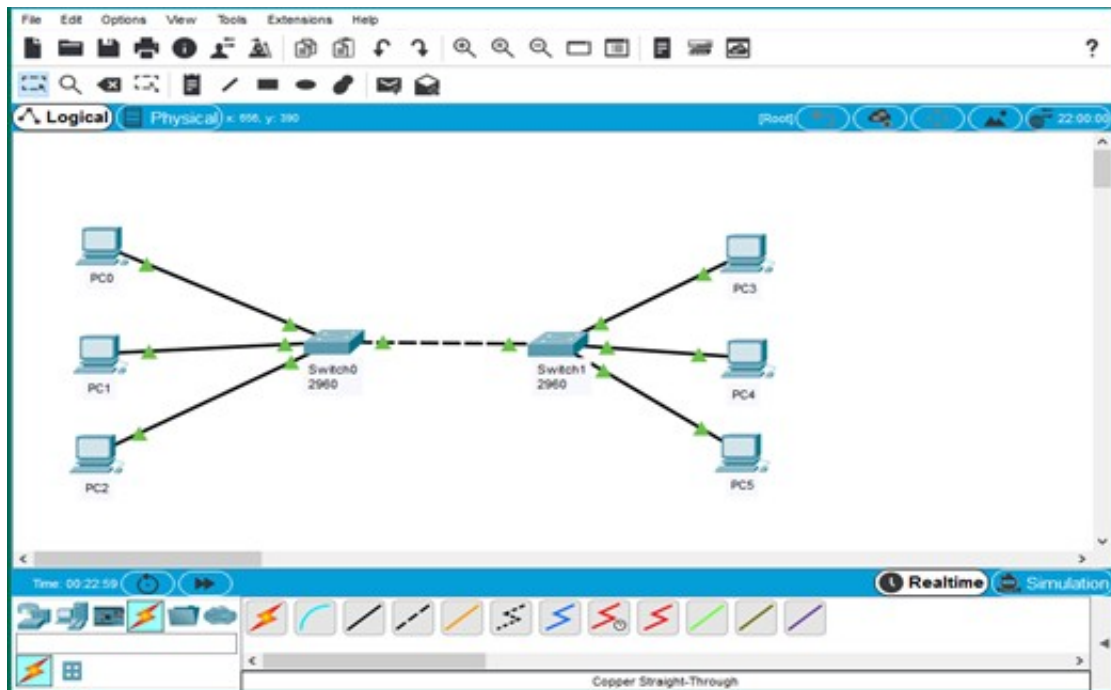

Figure 1.5: Completed Activity: PCs connected via Straight-Through to each switch, and the switches interlinked using Cross-Over at Gigabit ports.
- Compare your setup with Figure 1.5, ensuring that each interface shows a green link light and that no errors are reported in the **Packet Tracer** interface or logs.
### 15. Check Against Figure 1.5
- Figure 1.5 shows an example of the final layout. Your topology should closely match this diagram to ensure consistency and proper functionality.
- If your layout differs from Figure 1.5 or if links remain amber or off, re-check all cables and port selections before saving. You can remove or replace any incorrect cables to resolve connectivity problems.